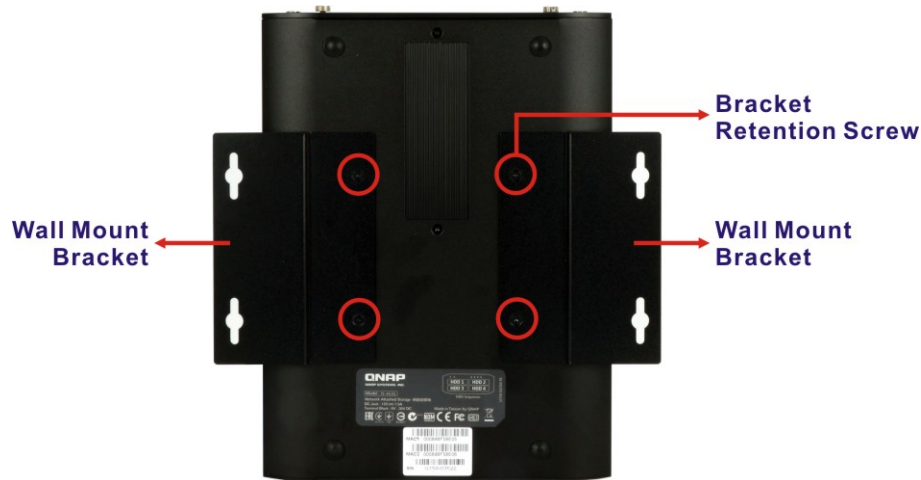

Figure 3-8: Mounting Bracket Installation
Step 3: Secure the brackets to the system by inserting two retention screws into each bracket (**Figure 3-8**).